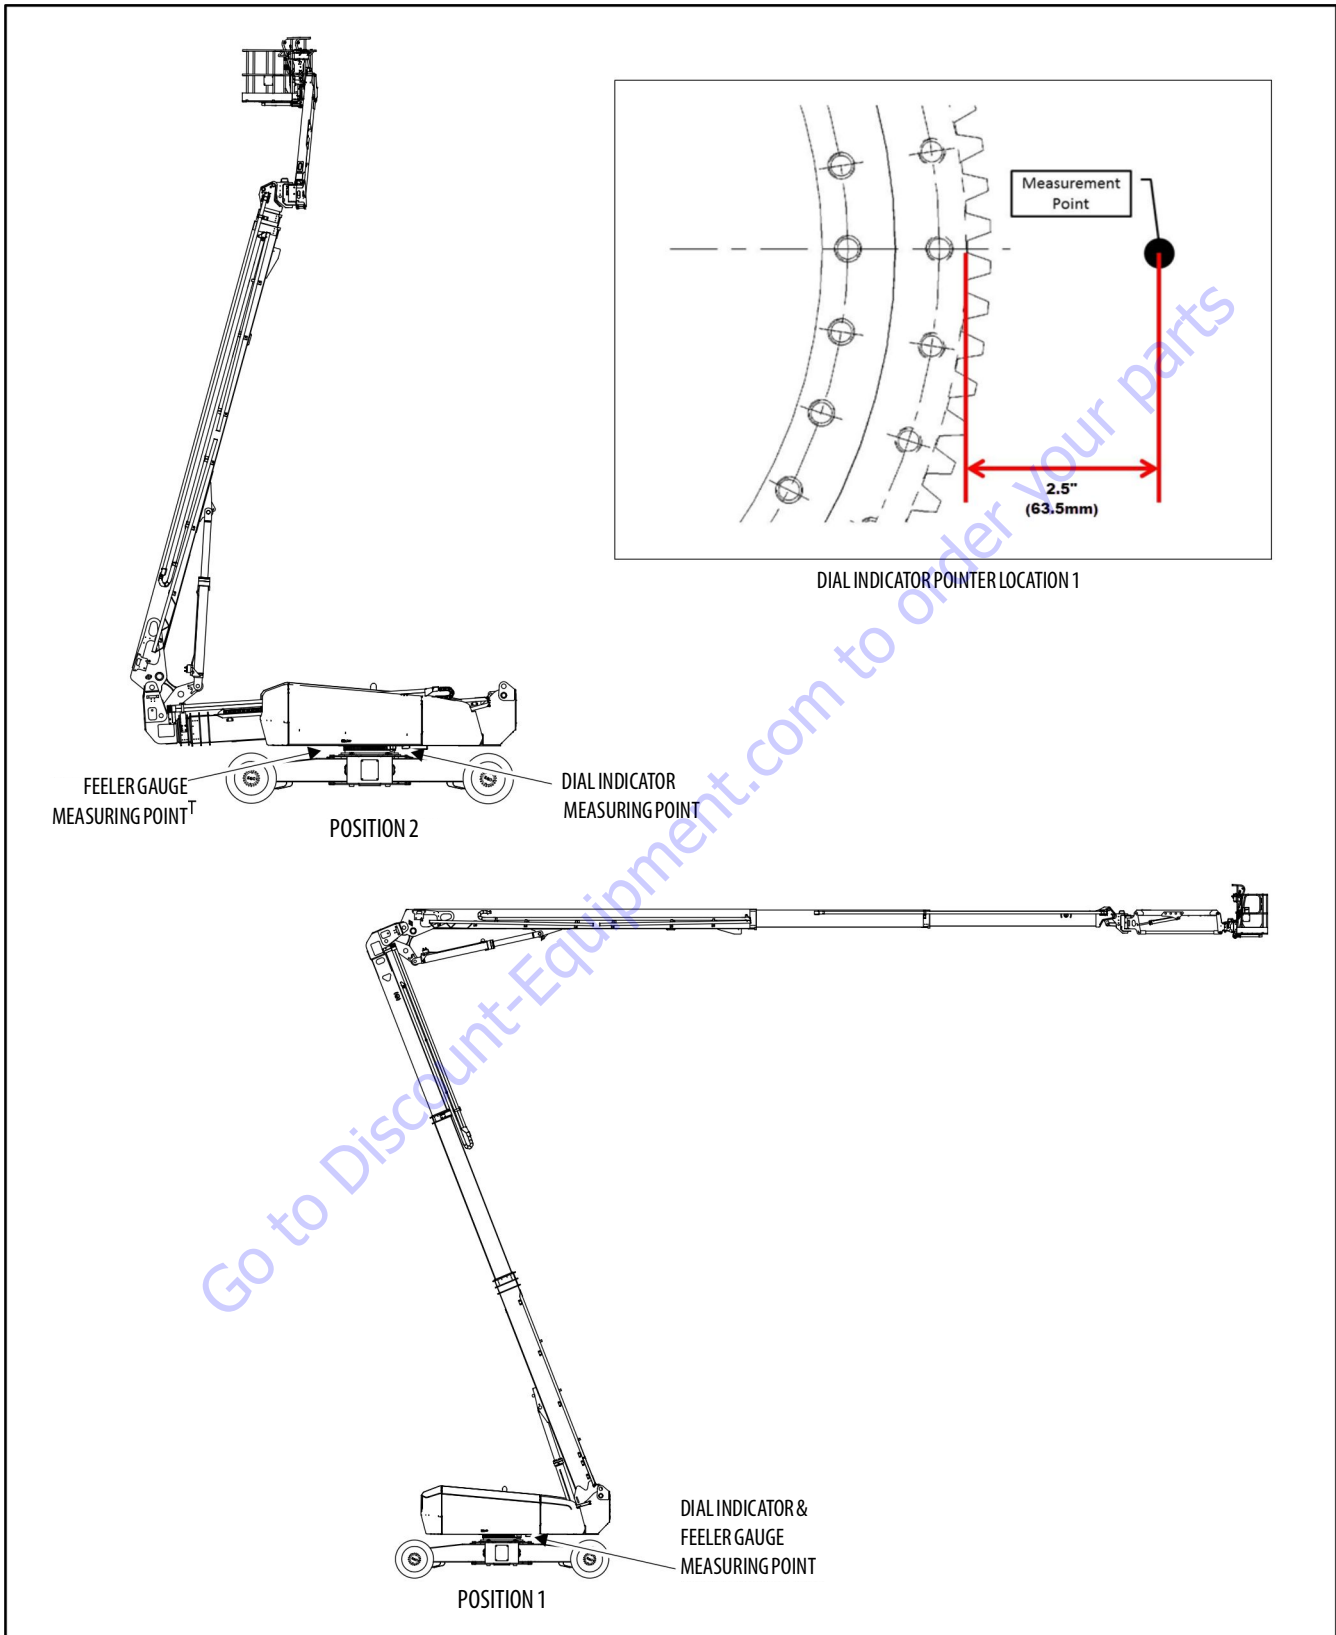

Figure 3-53. Swing Bearing Wear Tolerance
- a. Fully elevate the main boom. (Position 2, Figure 3-53.)
- b. At the position indicated on Figure 3-53., try to insert a 0.0015" feeler gauge between the bolt and hardened washer at the arrow indicated position.
- d. At the position indicated on Position 1 Figure 3-53., try and insert the 0.0015" feeler gauge between the bolt head and hardened washer at the arrow indicated position.
See Figure 3-53., Swing Bearing Wear Tolerance.
1. Position the machine as follows and as seen in Figure 3-53., Swing Bearing Wear Tolerance, Position 1:
- c. The indicator point needs positioned to measure the turntable base plate 2.5 inches from the root of the gear tooth. Refer to Figure 3-53., Swing Bearing Wear Tolerance.
7. Return the machine to Figure 3-53., Swing Bearing Wear Tolerance, Position 1. The dial indicator should return to zero. If the dial indicator does not return to zero, take corrective action and repeat the test.